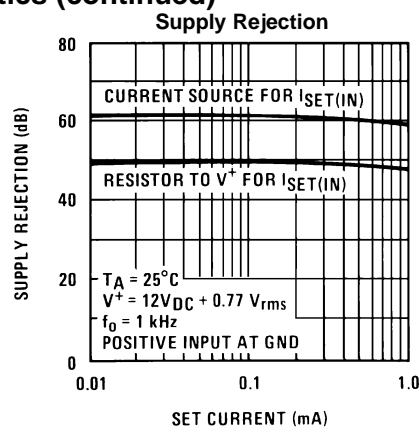
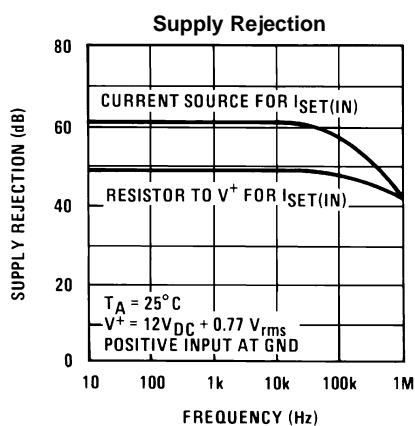

Figure 15.
Figure 16.
(2) See Figure 15 and Figure 16.